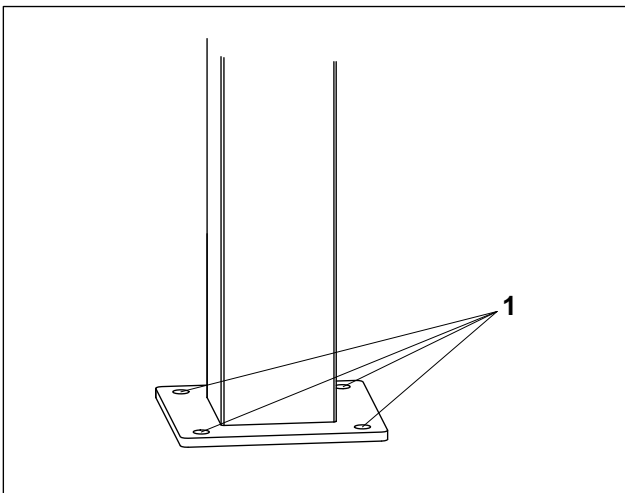

Fig. 4 Base plate of the column
2. Mark the four bore holes on the foundation using the column's base plate (Fig. 4/1) as a template.